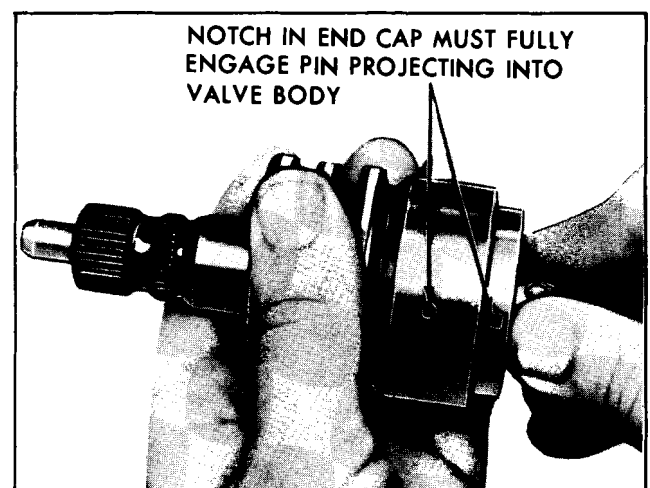

Fig. 9-95 Installing Stub Shaft Assembly
6. Align the notch in the shaft cap with the pin in the valve body and press the spool valve and shaft assembly into the valve body (Fig. 9-95).